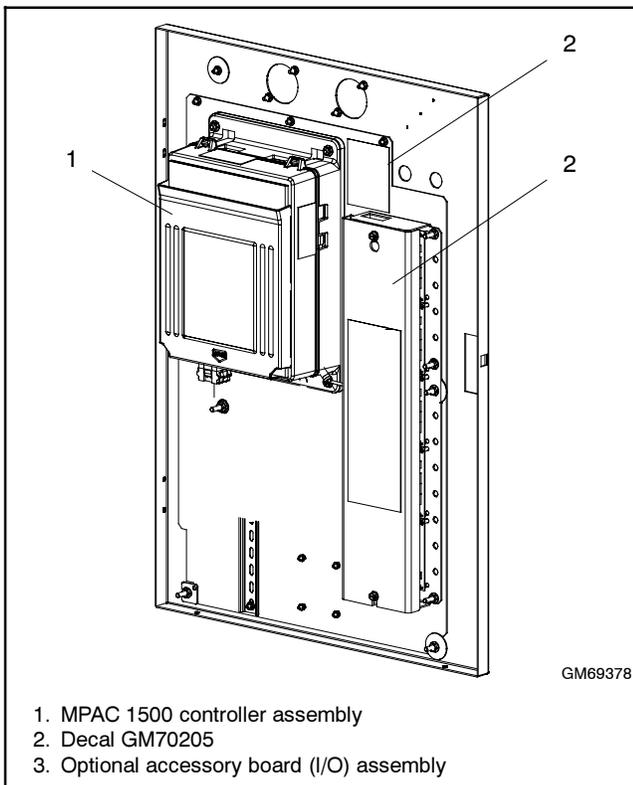

Figure 24 Decal GM70205 Location
23. Place decal GM70205 on the mounting plate as shown in Figure 24.
24. If optional accessory modules are used, attach the accessory mounting kit to the conversion kit mounting plate. See Figure 16 and Figure 24. Then refer to instruction sheet TT-1449, provided with the accessory mounting kit, to install and connect the modules.